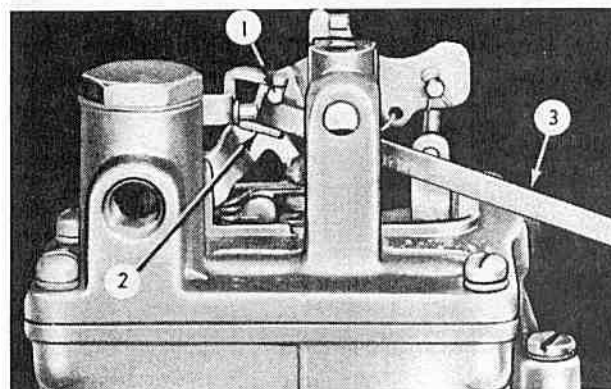

FIG. 409
After adjusting the top finger of the vacuum piston link, check the clearance between the bottom of the pump operating lever pin (1, Fig. 409) and the bottom finger of the vacuum piston link (2), using a 3/16" (4.763 mm.) gage (3) (Float Gage J-818-3). If an adjustment is necessary, using Adjusting Tool T-109-105, bend the lower finger of the vacuum piston link to obtain the proper clearance.